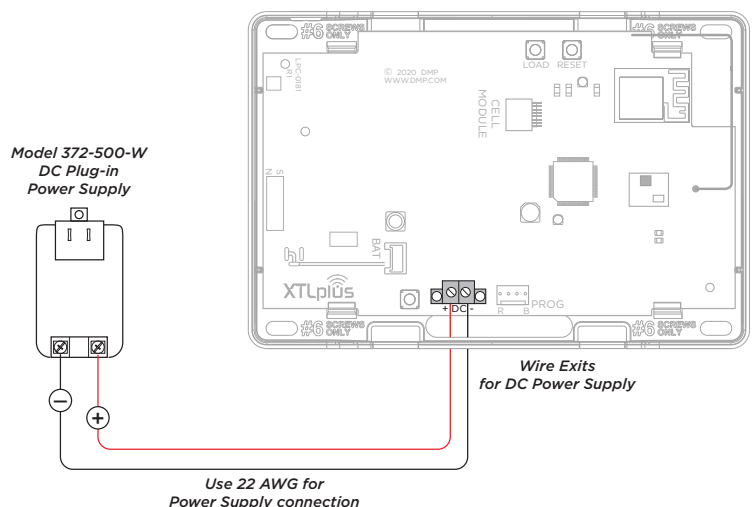

Figure 2: DC Power Supply Connection
2. Connect the panel DC terminal (-) to the negative terminal on the power supply. See Figure 2.